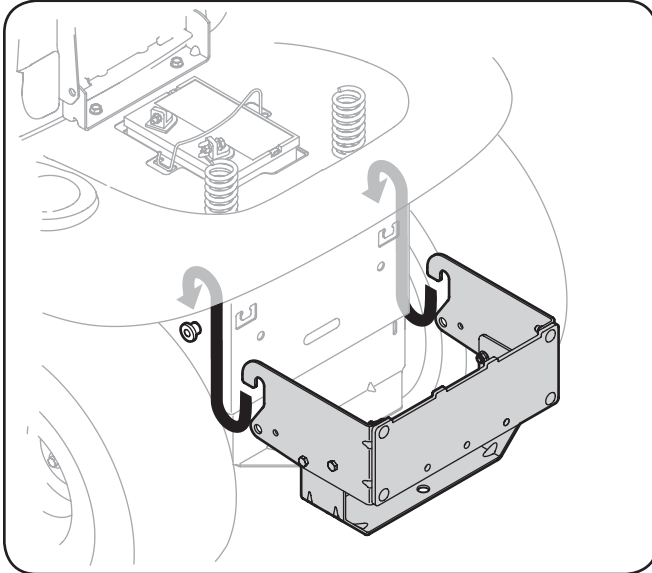

Figure 3-5
1. Place the hooked ends of the mounting assembly over the shoulder bolts, as in Fig. 3-5, on the tractor and line up the hitch support bracket center hole with the hole on the tractor's hitch.